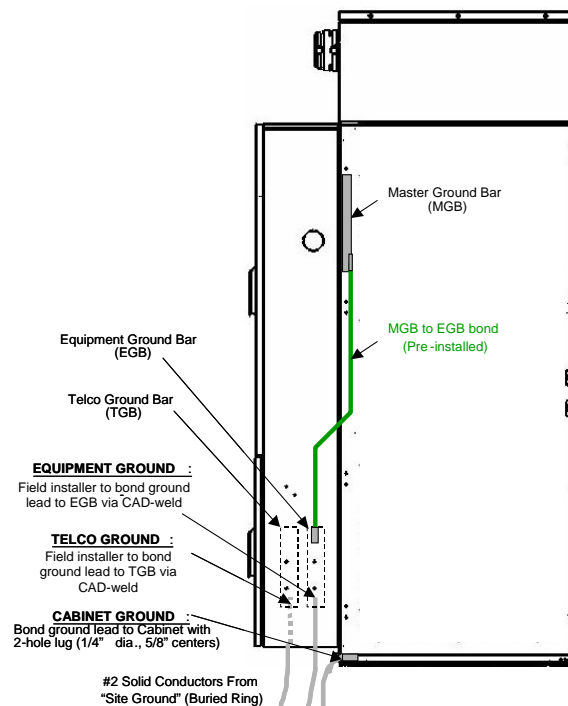

Figure 3 – Grounding Configuration of MGB, EGB, TGB (Power Bay Shown)
1. The various "Equipment Grounds" of the cabinet (DC Plant 0V Buss [DC Return], BTS grounds) system are bonded to the cabinet's Master Ground Bar (MGB) that is accessed on the inside left side of the Power Bay. The MGB is subsequently bonded to an Equipment Ground Bar (EGB) located in the Telco Compartment on the lower left end-cap. (See Figure 3 below, TermMod Shown)
2. All necessary grounds for future equipment to be installed in the Equipment Compartment should be bonded to the MGB (see Figure 3) via 2-hole lugs (5/8" centers, 1/4"x20 stainless steel h/w, lug tongue length to be <1.5").
3. The ground riser from the site "Single-Point Ground" (e.g. buried ring) should be connected to the EGB via CAD-weld to establish the "Equipment Ground." (See Figure 3)
4. For the "Telco Ground," another ground riser from the site "Single-Point Ground" should connect to the Telco Ground Bar (TGB) mounted inside the Telco cabinet. T-span surge suppressors should be grounded to the TGB following provided manufacturer's instructions. (See Figure 3)